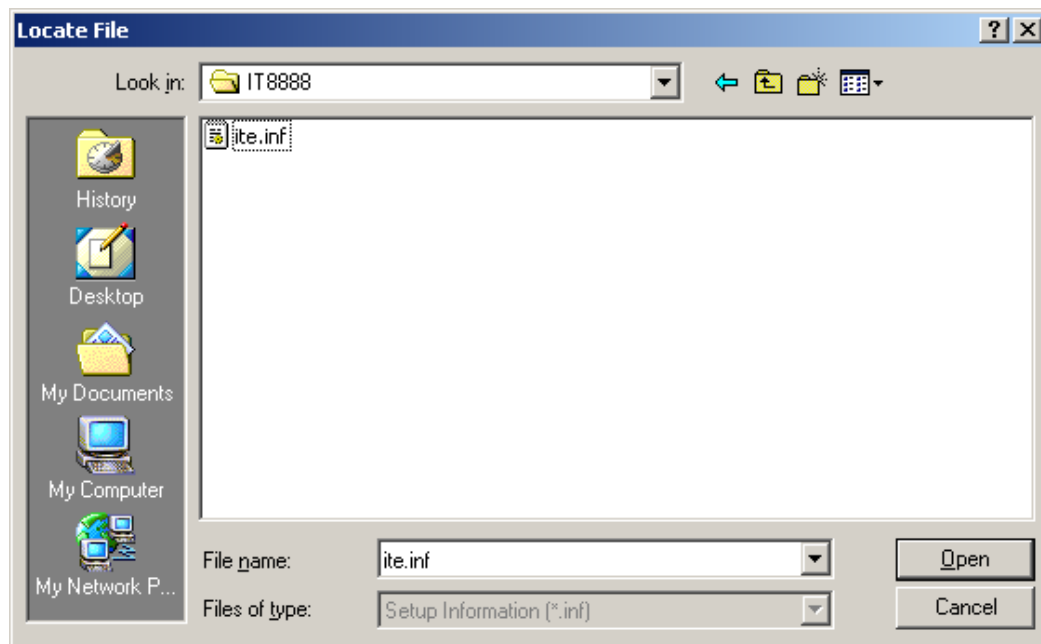

Figure 6-37: Location Browsing Window
Step 8: Select "**X:\IT8888**" directory in the location browsing window, where "**X:**" is the system CD drive (**Figure 6-37**).